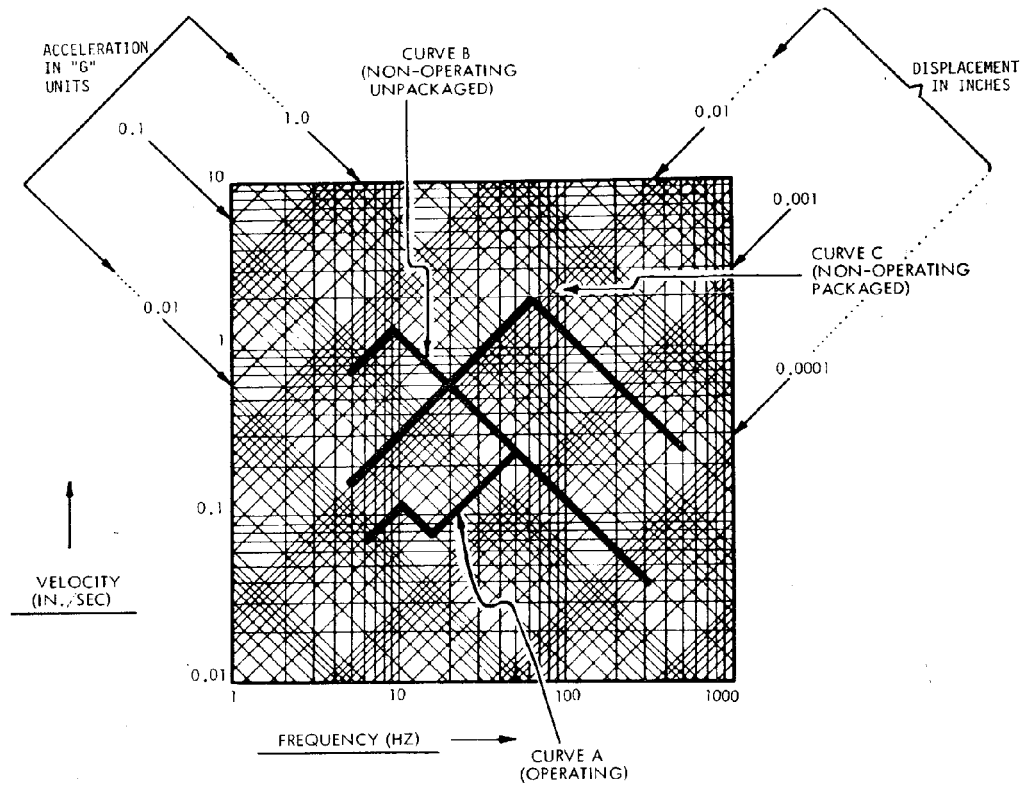

Figure 5. Vibration Levels
1. Continuous vibration as indicated in Figure 5, Curve A.
Vibration as shown in Figure 5, Curve B.